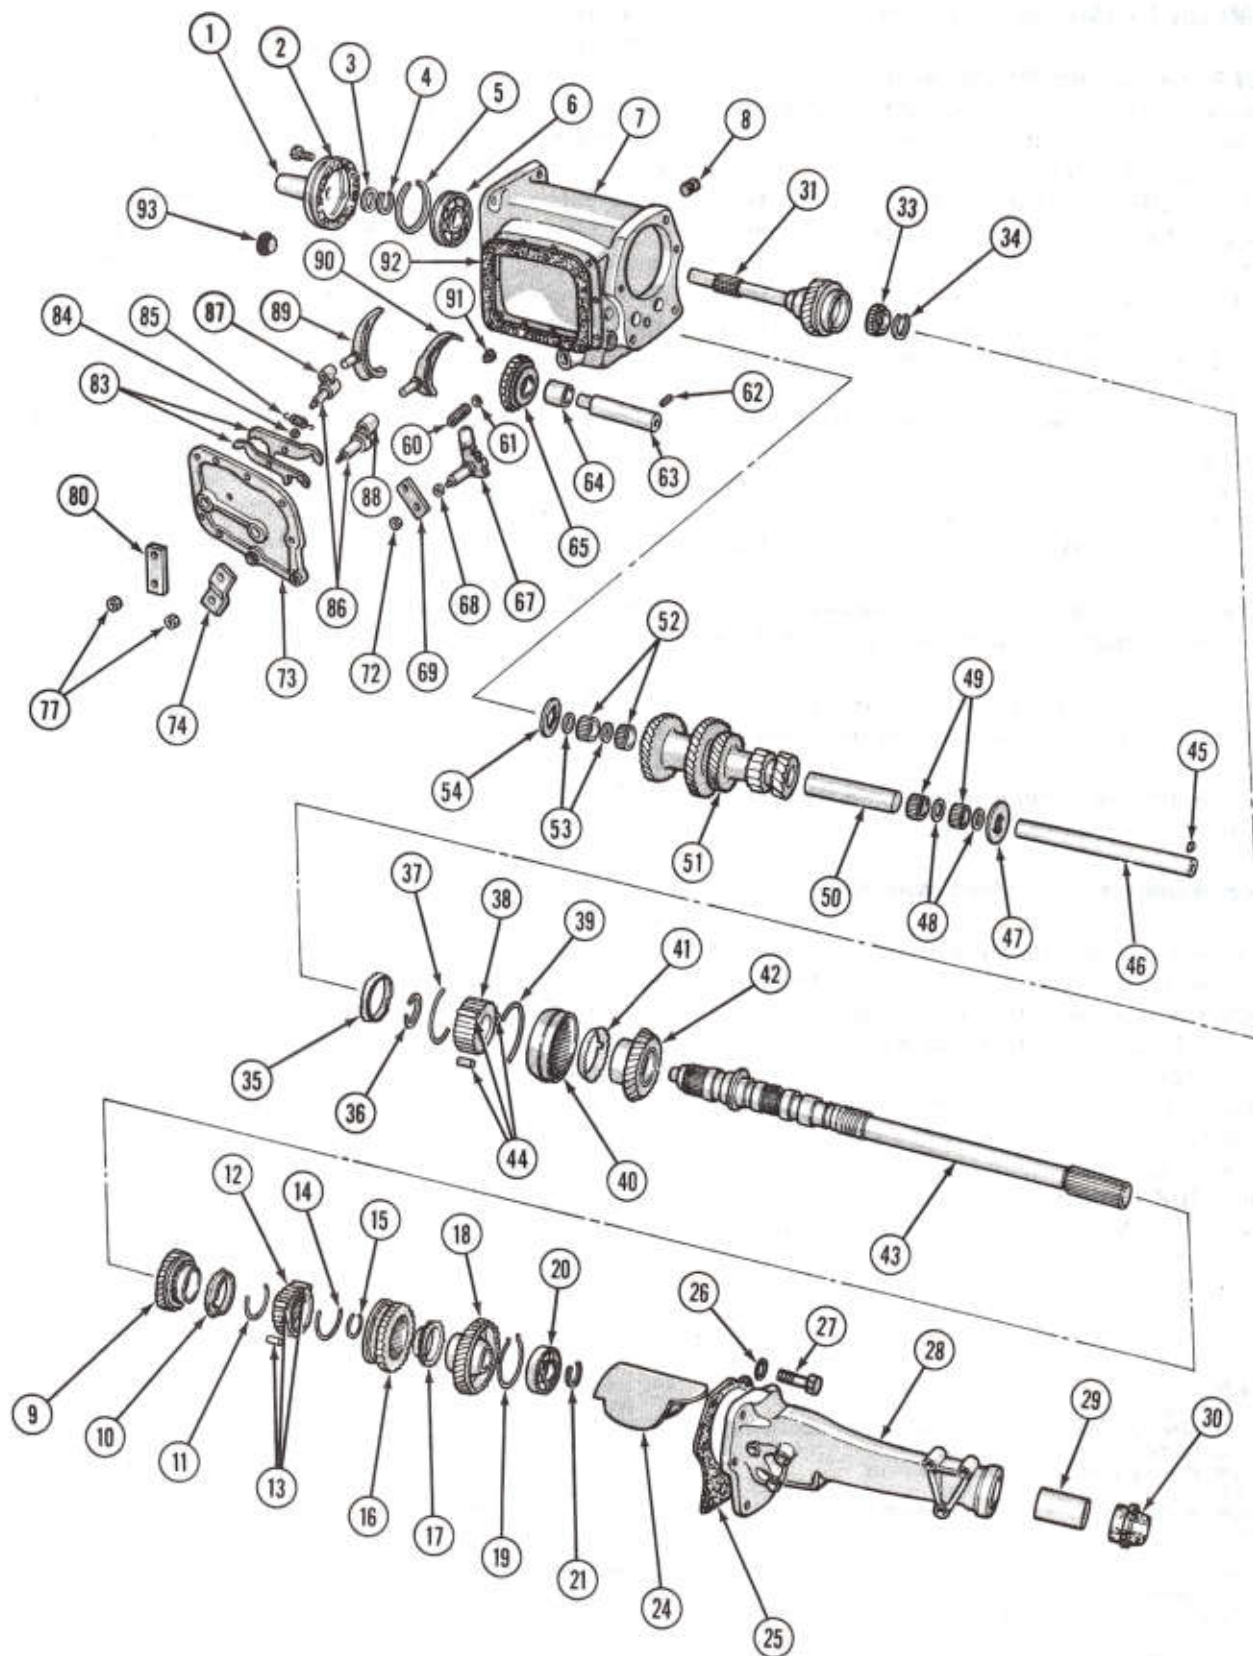

Fig. 13—Overdrive-4 Manual Transmission
LEGEND FOR FIGURE 13
(1) Coat inside bore of countershaft gear at each end with a thin film of grease and install roller bearing spacer with arbor Tool C-3938 into gear. Center spacer and arbor.
(2) Install 19 rollers, followed by a spacer ring, 19 more roller bearings, and 1 spacer ring into each end of gear (Fig. 13).